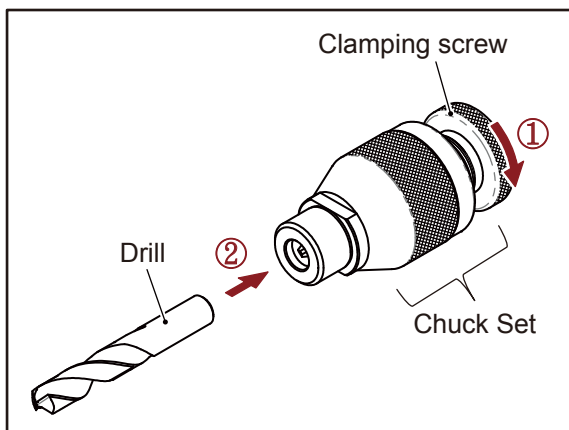

Fig. 6-1
2. Turn the clamping screw of chuck set by counterclockwise to open the 4 jaws of chuck set, until you can put the drill into the chuck set. (Fig. 6-1)